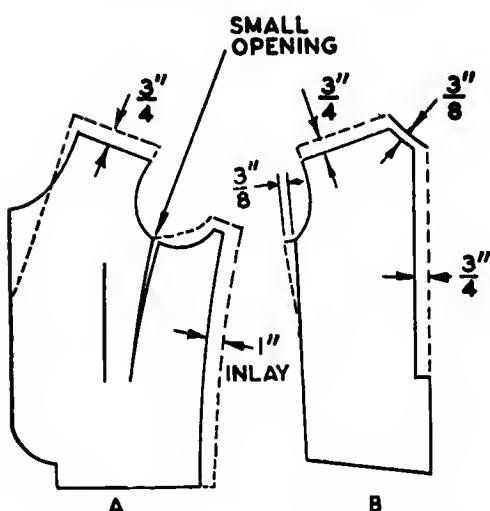

Fig. 84. For a man's sport coat.
k. For cutting directions for the front and back of a man's sport coat see Figure 84.